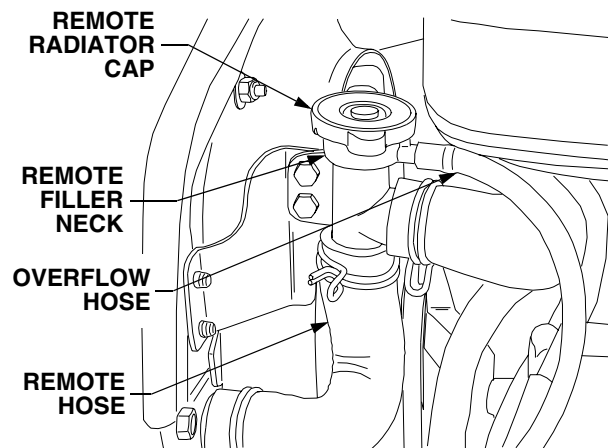

Figure 57
- Turn the remote radiator cap counterclockwise to the first stop to release any pressure. See Figure 57.
- Turn the remote radiator cap counterclockwise to the first stop, then push downward on the cap and turn counterclockwise to remove. Refer to Figure 57.